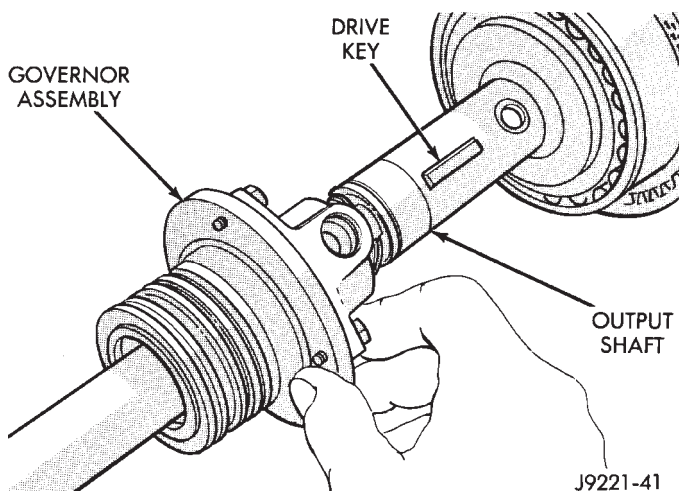

Fig. 59 Installing Governor Assembly
(6) Install governor assembly on output shaft (Fig. 59). Be sure drive key is fully engaged drive slot and is not displaced during installation.